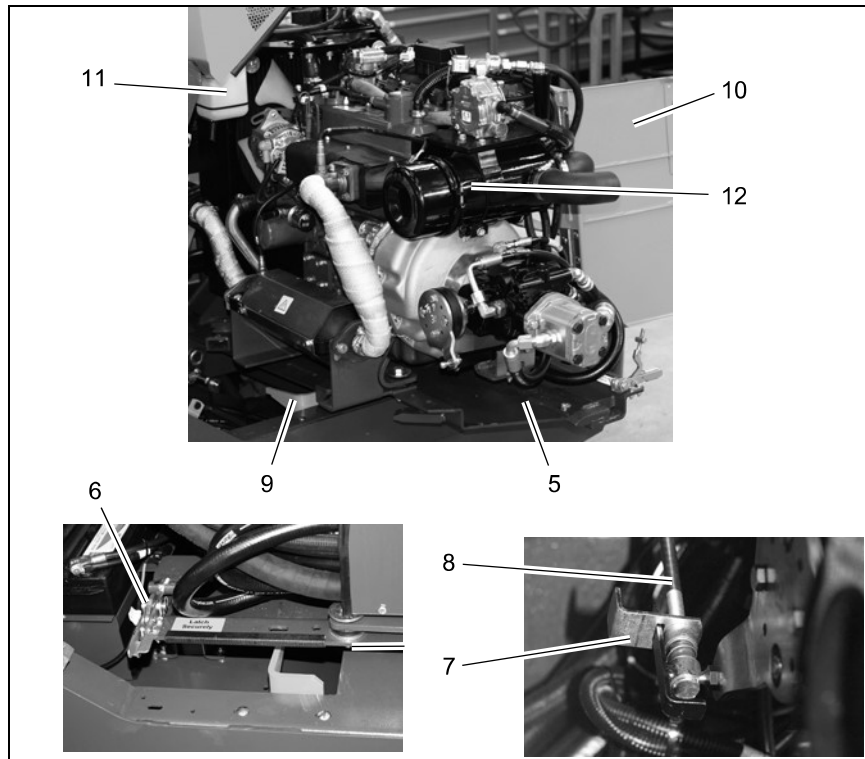

Fig.13
3. Swing open the engine access door (Fig. 13/10).
4. Release the lock on the throttle (Fig. 13/7) and unhook the throttle (Fig. 13/8).
5. Open the lock on the engine frame (Fig. 13/6) and pivot the engine frame (Fig. 13/5) to the side until it latches in place and is secured against pivoting back.
6. Pivoting the engine frame back is performed in the reverse sequence. Before the engine can be pivoted in, the lock (Fig. 13/9) must be released.